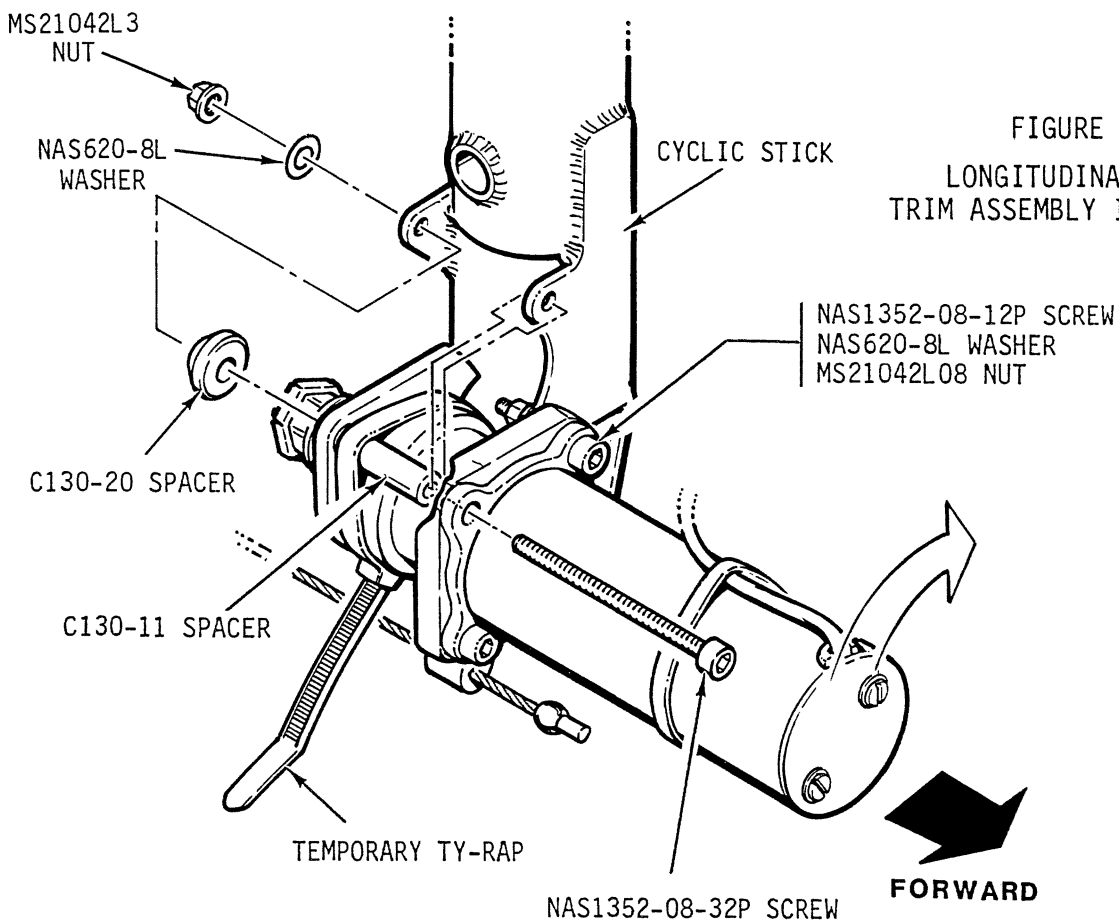

FIGURE 8-4C
- a) Refer to Figure 8-4C. Install trim motor assembly on cyclic stick with NAS1352-08-12P screw, NAS620-8L washer and MS21042L08 nut in lower position and lightly tighten. Pivot motor upward and install NAS1352-08-32P screw, C130-11 spacer (may be secured to motor with ty-rap to ease installation), C130-20 spacer (chamfer pointing aft), NAS620-8L washer, and MS21042L08 nut in upper position. Remove ty-rap used to position C130-11 spacer, if installed. Torque nuts to 20-25 in.-lbs (includes nut self-locking torque).